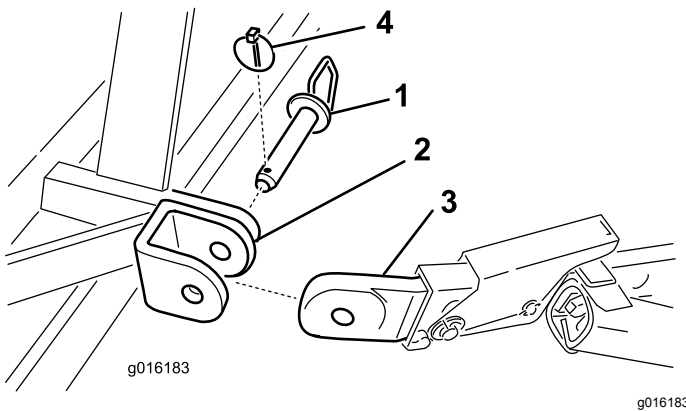

Figure 4
5. Secure the lower link arms to the aerator mounting brackets with hitch pins and lynch pins (Figure 4).